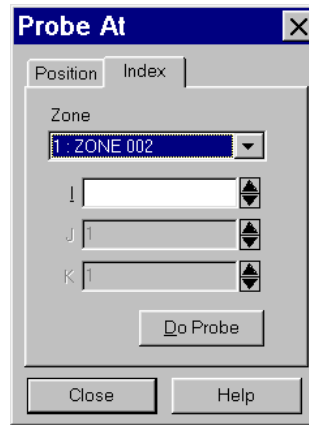

Figure 26-3. Index page of the Probe At dialog.
2. Click the Index button (Index tab in Windows) to bring up the Index page of the Probe At dialog, shown in Figure 26-3.